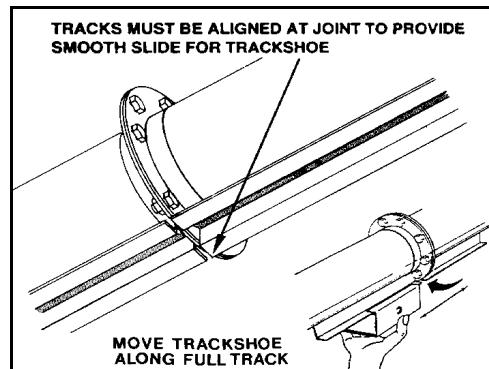

Figure 3.4 51' Lift Track Only
- The 51' auger has a 2-piece lift track. Make sure the upper and lower tube track sections butt together to form a smooth joint for the roller track shoe to roll across. Adjust if necessary (Figure 3.4).